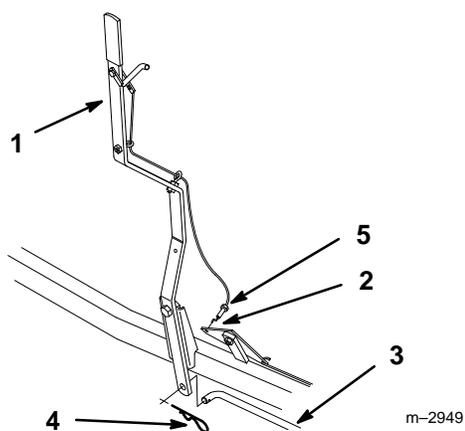

Figure 6
7. With index handle vertical attach cable Z end to back hole of triangle index plate (Fig. 6).
8. Attach control rod to index lever with large hairpin cotter (Fig. 6).
9. Move index lever to center position and adjust cable turnbuckle so the index pin is pulled out of channel when the release lever is squeezed and blade moves side-to-side when lever is pushed and pulled (Fig. 6).